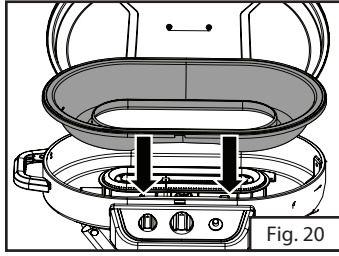
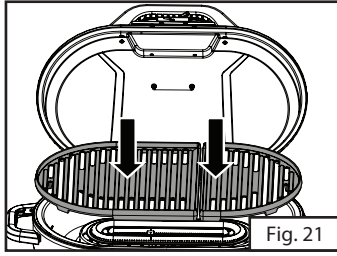

Fig. 20
Fig. 21
- Replace the water pan (Fig. 20), place the cooking grates (Fig. 21), and then close and latch the grill lid.